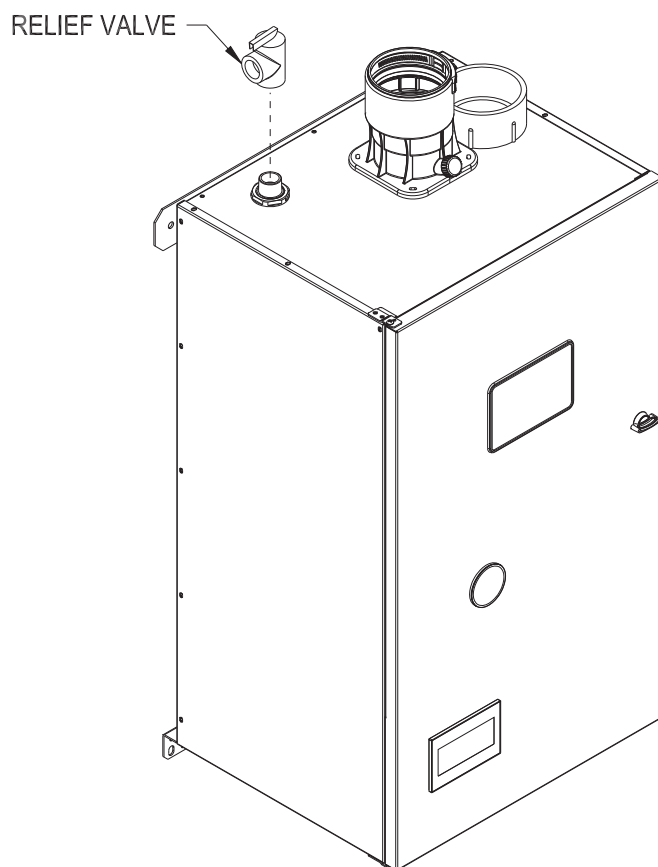

Figure 9.0: Factory Supplied Piping and Trim Installation
1. Relief Valve (Required) – The relief valve is shipped loose and must be installed in the location shown in Figure 9.0. Pipe the outlet of the relief valve to a location where water or steam will not create a hazard or cause property damage if the valve opens. The end of the discharge pipe must terminate in unthreaded pipe. If the relief valve discharge is not piped to a drain, it must terminate at least 6” above the floor. Do not run the discharge piping through an area that is prone to freezing. The termination of the relief valve must be in an area where it is not likely to become plugged by debris.